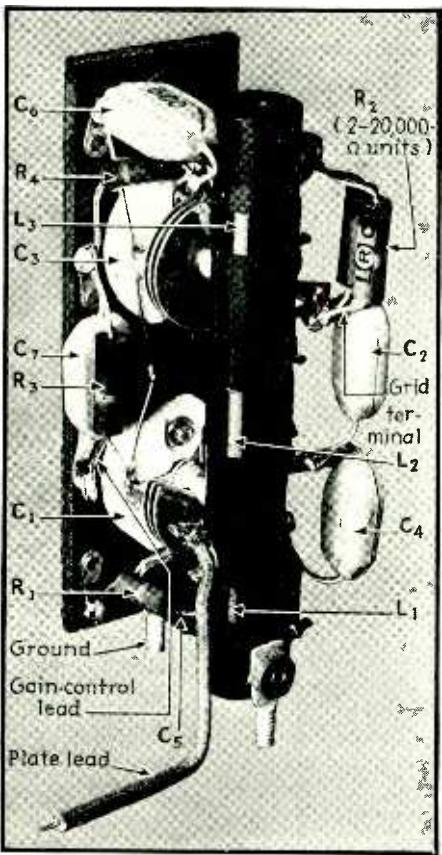
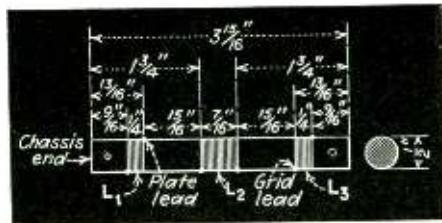

Fig. 3—Two views of the video i-f coupling unit. The labels correspond to Fig. 1.
Fig. 4—Dimensions of coupling-unit coil assembly
THE video signal, as outlined in the preceding installment of this series, enters the r-f amplifier of the receiver as a carrier whose frequency is 13 Mc lower than the oscillator frequency. Consequently in the output of the 1852 converter tube (see Fig. 4, page 19, October issue), the video signal appears as an i.f. of 13 Mc with sidebands extending 2.5 Mc above and below the carrier. The sideband from 13 to 10.5 Mc is amplified in an i.f. amplifier consisting of three 1852 stages, coupled by filter networks designed to pass this wide band without frequency discrimination. At the output of the i.f. amplifier, a single section of a 6H6 diode demodulates the i.f. and produces a signal having components from 0 to 2.5 Mc. This demodulated signal is then amplified in a video amplifier and applied to the grid of the cathode ray tube. The video output stage also feeds the sync separator circuit shown in Fig. 6b, page 24, in the September issue.
The connections of the wide-band video i.f. amplifier, second detector and video output stage are shown in Fig. 1. The arrangement of the circuit parts is shown in Fig. 2 (and also in Fig. 2, page 17, October issue). Referring to Fig. 1, the 1852 converter tube feeds a coupling network consisting of three parallel tuned circuits, the first in the plate circuit of the converter, the second in the coupling connection to the following i.f. amplifier tube, and the third in the grid circuit of the latter tube. These circuits and auxiliary components are mounted within a cylindrical shield can, measuring 2 $\frac{1}{2}$ " by 4" high, represented by the dotted lines in the diagram. Four such coupling units are employed between the three i.f. stages and in the second detector input. All four of these coupling units are the same except for the following: (1) In the first coupling unit, between the converter and the first i.f. tube, a connection is made from one end of coil L_2 (the coupling coil) to the audio channel, as shown. This connection leads directly to the rejector circuit in the audio channel, shown in Fig. 4, page 19, October issue, and replaces the
The coupling unit assembly is shown from two aspects in Fig. 3, while the dimensions of the coils and their spacing on the coil form are shown in Fig. 4. The unit consists of three coils, designated as L_1 , L_2 and L_3 in Fig. 1. These coils are all wound on a $\frac{1}{2}$ -inch hard rubber man-
The assembly of the coils, capacitors and resistors is shown in Figs. 3 and 4. Care should be taken to follow the design carefully, else stray capacitances may make it impossible to bring the circuits into the proper alignment. The positions of the parts are labelled in Fig. 3 to correspond to Fig. 1. The position of the i-f coupling unit with respect to the tubes it couples is shown in Fig. 5. The 1852 tubes employ single-ended construction, and their sockets should be so placed that the shortest possible leads are taken from the grid and plate terminals to the coupling units.